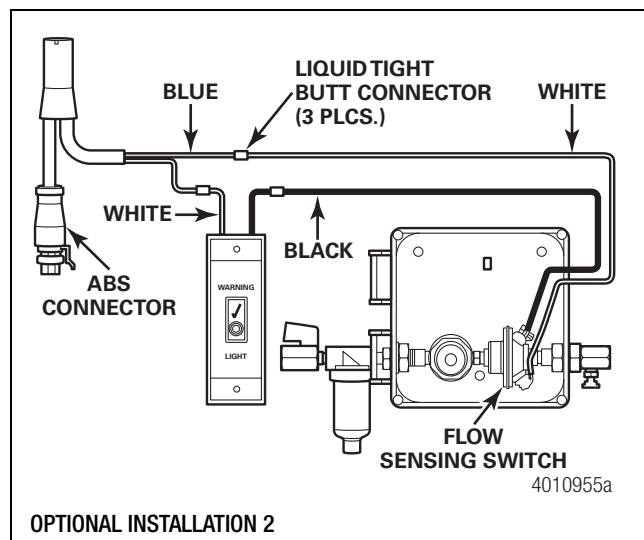

Figure 2.70
4. At the ABS connector, connect the white wire from the control box to the blue wire from the ABS connector. Connect the black wire from the control box to the black wire from the warning light. Connect the white wire from the warning light to the white wire from the ABS connector. Use a liquid tight connector at all connections. Figure 2.70.